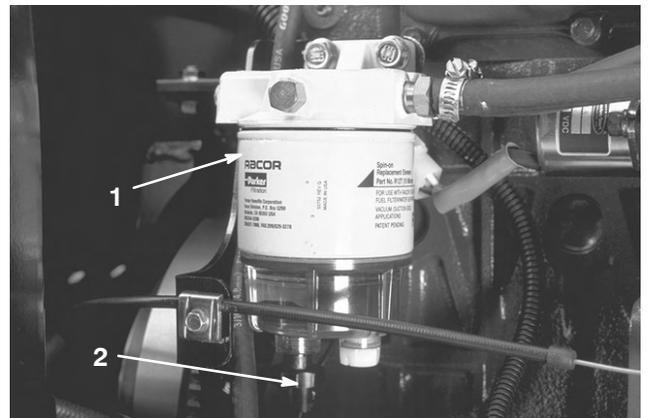

Figure 42
Drain water or other contaminants from the water separator (Fig. 42) daily.
2. Loosen the drain plug on the bottom of the filter canister (Fig. 42). Tighten the plug after draining.